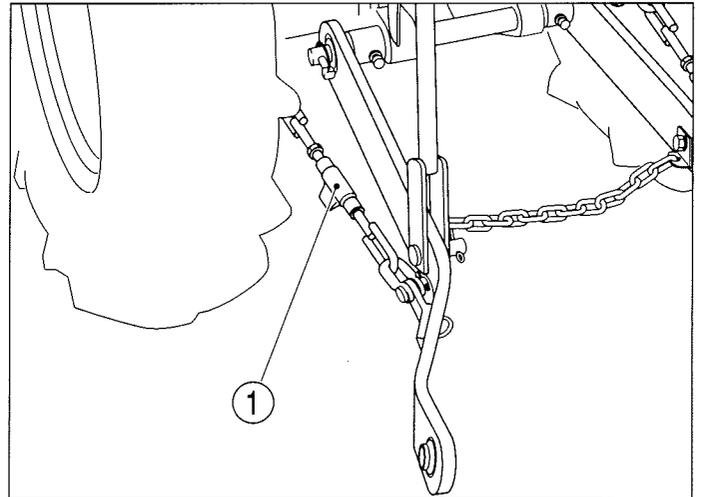

FIG. 63
FIG. 63: Certain implements require minimal side-play. The stabilizer chain (1) at each lower link should be evenly adjusted to reduce side-play to the desirable level. Do not, however, eliminate all side-play as chain or lower link damage may result.